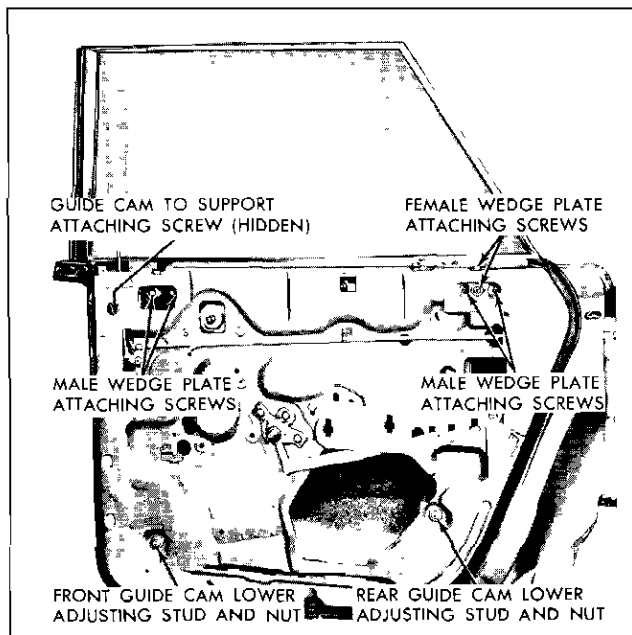

Fig. 2-37 Rear Door—39 Styles
4. Remove regulator attaching screws, disengage balance arm from inner panel cam and remove regulator assembly through access hole (Fig. 2-37).